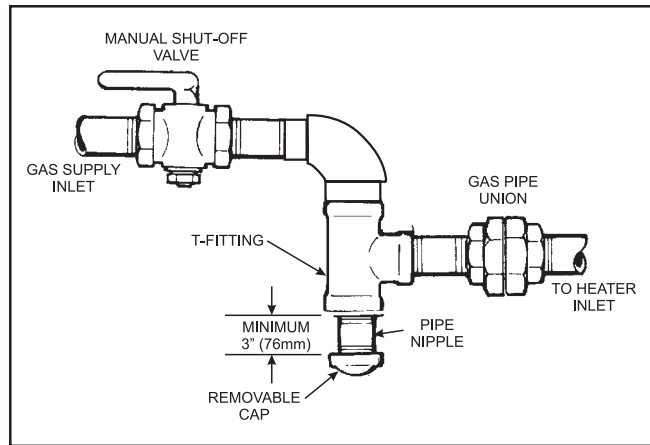

Figure 6. The proper design for a sediment trap/drip leg.
- Install a sediment trap (drip leg) ahead of the gas controls (see Figure 6). Fit the trap with a threaded cap which can be removed for cleaning.